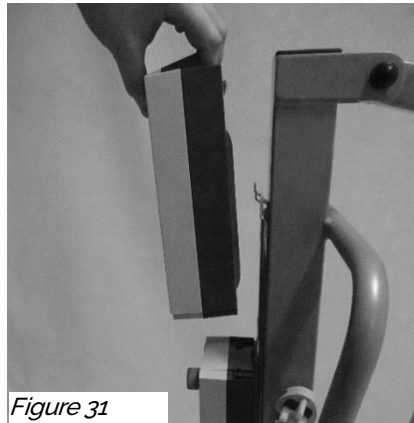

Figure 31
2. Press the latch to release the Battery and lift the Battery from its fixing. (Figure 31)